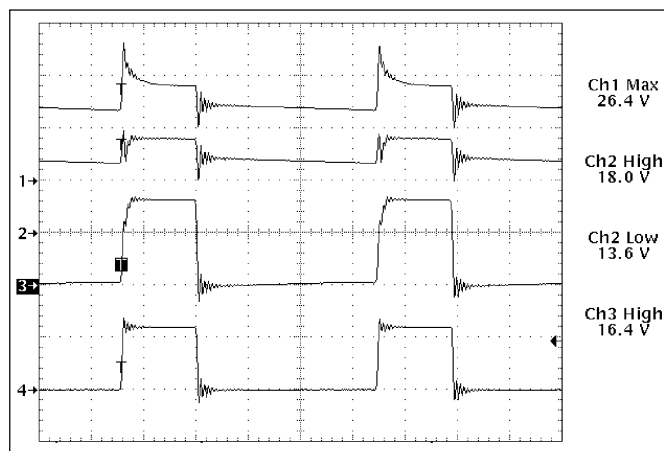

Figure 7: V_{CC2} Charge Pump Operation (1μs/div).
In order to fully turn on the high side NFET, a voltage greater than the input voltage must be applied to V_{CC2} to bias the GATE(H) driver. Referring to the application diagram on page 1; a simple charge pump circuit can be implemented for this purpose through capacitor C6, resistor R1, and diodes D1 and D2. The input voltage, less the drop in D1 is stored in C6 during the off-time period. When the high-side FET turns on, it drives the inductor switching node and C6 high causing schottky diode D1 to reverse bias. The charge stored in C6 is transferred to V_{CC2} through R1. Zener diode D2 clamps the V_{CC2} voltage to 18V to prevent the V_{CC2} from exceeding its 20V Max rating (see Figure 7).